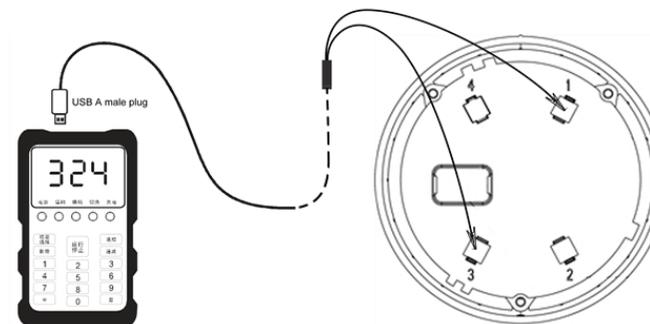

Fig.2
1. Wiring: See Fig.2. The sounder beacon is subject to a two-wire non-polarity connection: Terminals 1 and 3 are respectively connected with the terminals L1 and L2 of the loop bus of a compatible fire alarm control panel.
2. Coding address: The sounder beacon must be encoded address by a special coder(CODER-F900E) before the installation. Fig.2 shows the wiring diagram of the sounder beacon and coder. After wiring, press the “#” key to select “324” mode, set the coder with the coding function, then select the correct address number and press the “RUN/STOP” key to complete the address code setup. (Note: See the User’s Manual of the coder for the detailed operation.)